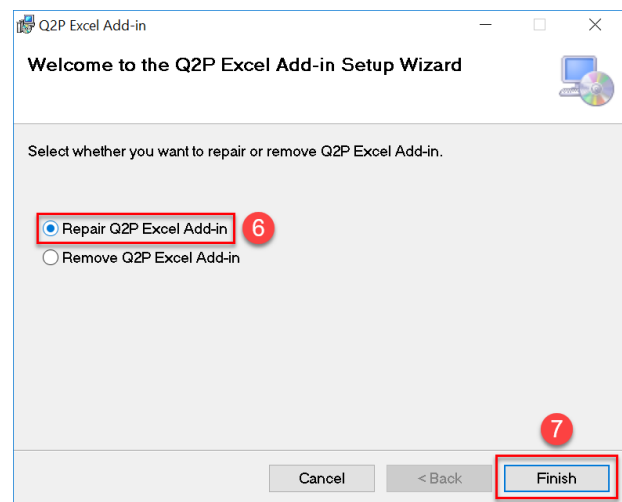

Figure 1.2 Window with “Repair Q2P Excel Add-In” tool.
6. A window should pop up with two radio buttons (Figure 1.2). Select the “**Repair Q2P Excel Add-in**” radio button and click the “**Finish**” button.